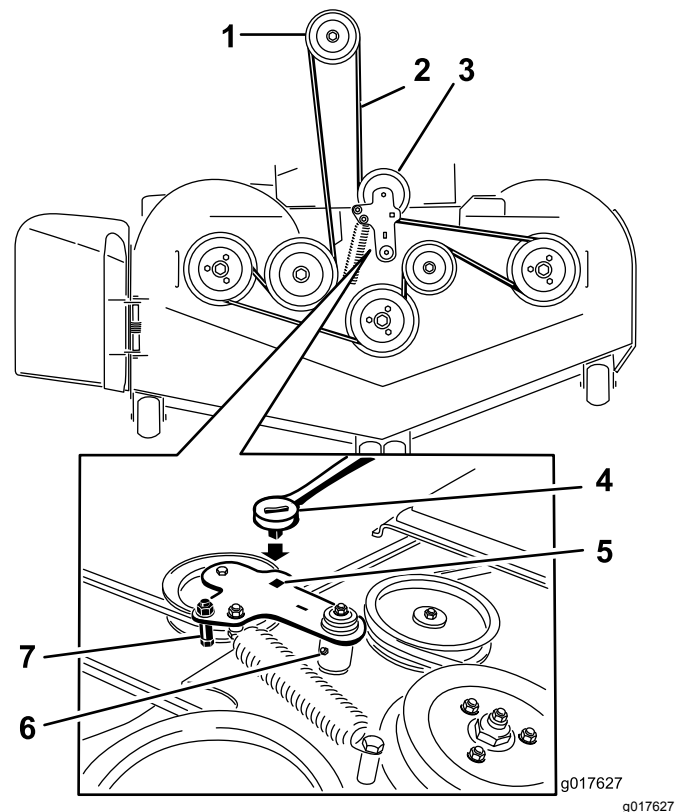

Figure 87
- Lift up the floor pan and insert a ratchet into the square hole in the deck idler (Figure 87).
- Rotate the deck idler clockwise and remove the mower belt (Figure 87).